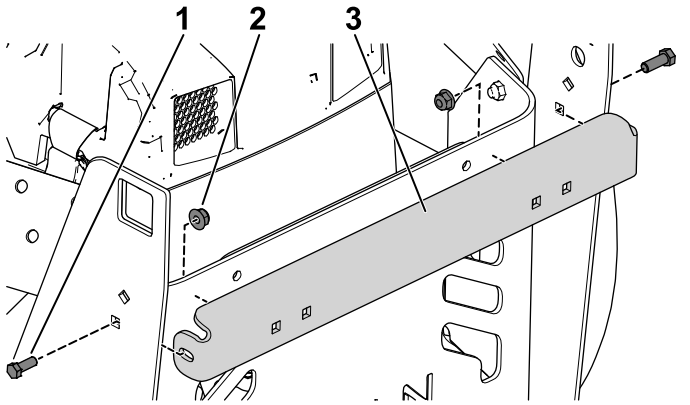

Figure 22
1. Use 2 hex-head bolts (5/16 x 7/8 inch) and flange nuts to secure the cross brace to the left and right bagger support (Figure 22).